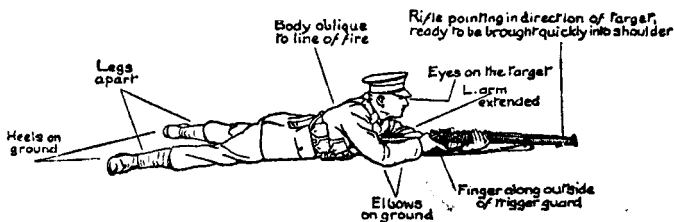

FIG. 13
Man will be taught to adopt the lying position rapidly and to handle the rifle with as little movement as possible. The oblique angle of the body (see Fig. 13) must not be exaggerated.
- i. To lie down.—Take a long pace forward to the right front with the left foot. At the same time change the rifle into the left hand, grasping it at the point of balance. Place the right hand on the ground in line with the left foot and lie down: during this movement push the rifle forward in the direction of the target and lower it to the ground; the left arm will now be extended to the front (see Fig. 13).